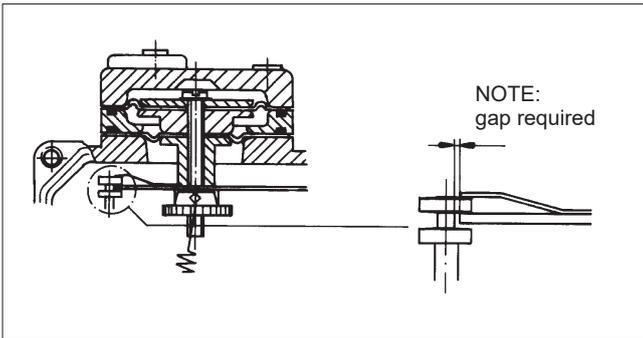

Fig. 15. Replacement of diaphragms
Table 4 shows the shift on the circumference of the cam equal to the “dead angle” of the valve, Figure 15, in various cam segments (C, E, D).
1. Mark the shift in question on the edge of the cam, Fig. 15 and Table 4. Dimensions do not have to be measured if the dead angle can be reliably noticed from position of the closing member.
2. Lock the cam so that the roller touches the edge of the cam plate at the mark. Tighten the locking wheel (30) and the screw (31).
3. Switch on the supply pressure (S) and the input signal (+/-). Note the correct polarity.